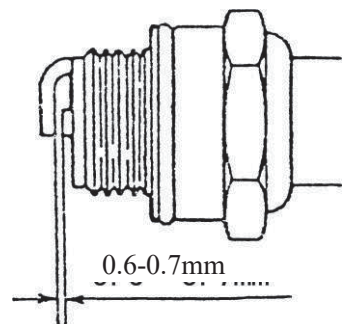

Fig.16
(1) After the operation each day, wash the filter, if the chemicals adhere to sponge, it would deduce the engine power, please pay attention especially.
(2) After wash the sponge with petrol, squeeze the petrol then fix the sponge in.
(3) The suitable clearance of sparking plug is 0.6—0.7mm, please check the clearance often, if it is too big or too small, adjust it properly, as shown in Fig.16.
(4) The sparking plug model of this machine is 4106J. Do not use other model. If it is necessary for change, you may buy it form local agricultural machinery department or plant protection department.\